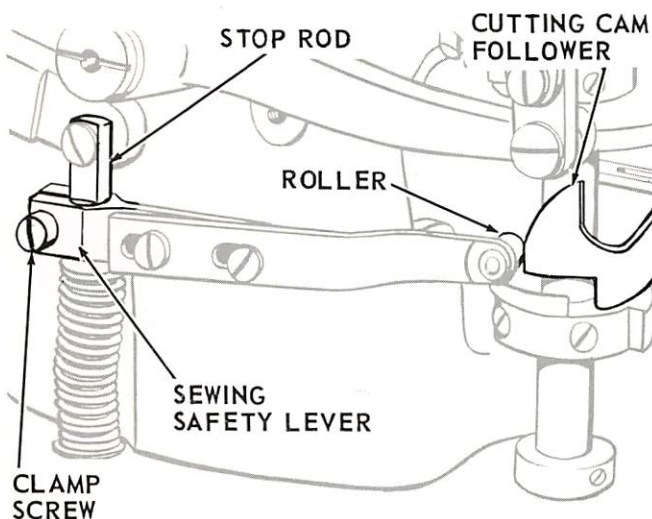

Fig. 93. Setting Sewing Safety Lever
SETTING: With machine in "stop" position, loosen clamp screw, shown in Fig. 93 and position the sewing safety lever on stop rod in relation to the upper thread cutting cam follower so that ---
1. Roller on safety lever, as machine is set in "run" position, will engage cam follower, as shown in Fig. 93, withdrawing clamping blades $3/16$ inch behind needle.